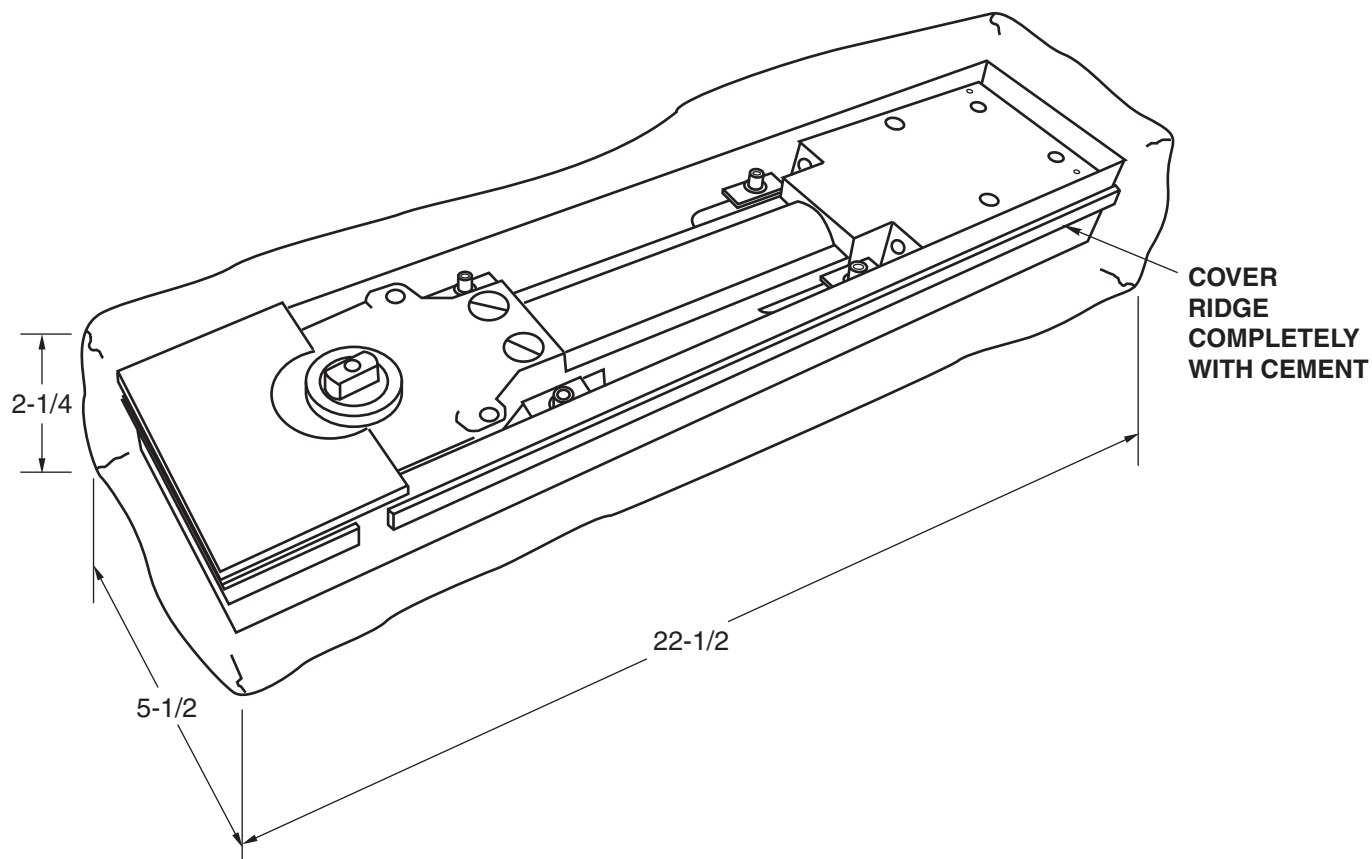

Figure 1
1. With frame set in place, cut hole in floor to dimensions for closer model on page 1; Figure 1. Clean out excess concrete.